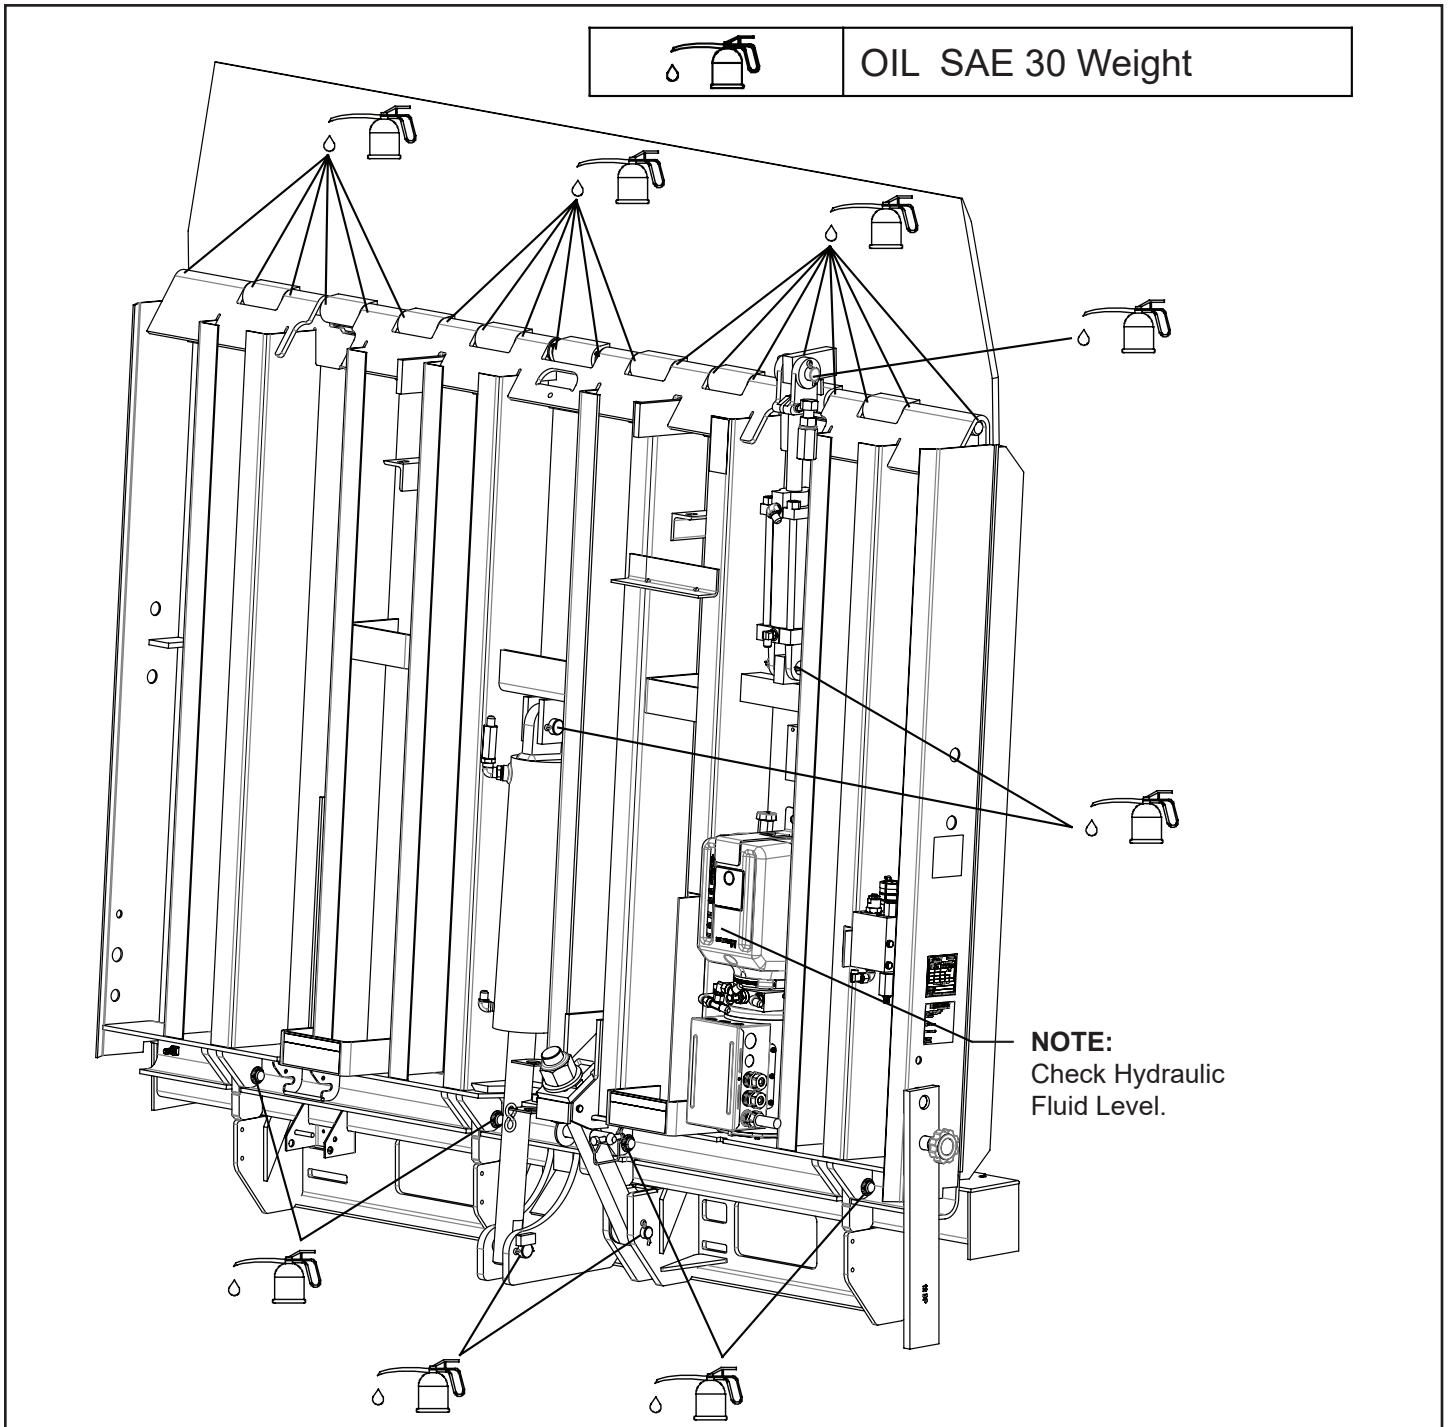

FIGURE 10 - LUBRICATION POINTS
2. Lubricate the unit with the proper lubricants. See Figure 10.